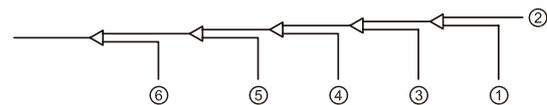

Fig. 14-15
8. Flush the other openings in the same manner, working in sequence from indoor unit A towards the outdoor units. Refer to Fig. 14-15